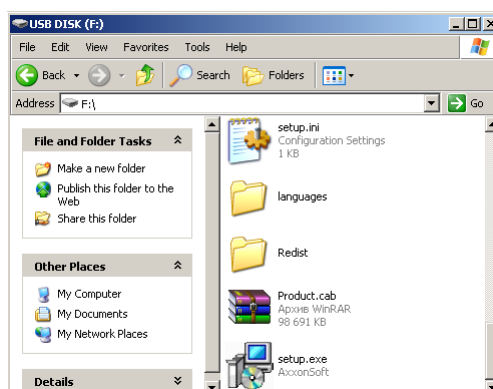

Fig. 3.2—12 Contents of the installation CD
1. Insert the Axxon Smart installation CD into the CD-ROM drive. A dialog box will display the disk contents (Fig. 3.2—12).
2. Run the Setup.exe file (see Fig. 3.2—12).